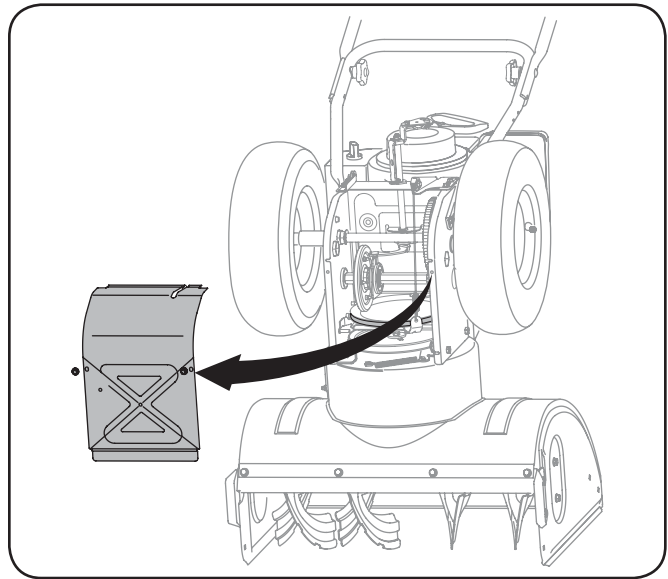

Figure 8-8
- Remove the frame cover from the underside of the snow thrower by removing four self-tapping screws which secure it. See Fig. 8-8.